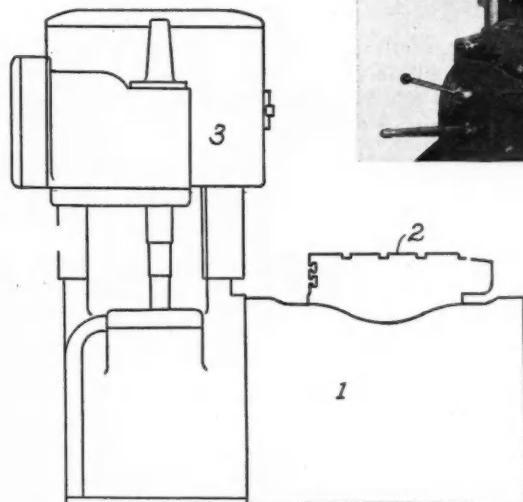

Fig. 8—Automatic polisher and buffer of unit construction by the Hammond Machinery Builders + +
Fig. 8 shows a striking new development—a universal automatic polishing and buffing machine recently made by the Hammond Machinery Builders. And it fits right into our picture. As shown in the illustration, the machine consists of a massive base providing support for a work table and any given number of polishing and buffing heads individually driven. The arrangement of driving head and the design of the table are all variable. According to the builders of this machine it answers the following requirements: (1) Presents the work to the polishing wheel face; (2) maintains correct position of work against the face of the wheel; (3) provides the yielding or giving effect of the human hand; (4) passes the work at the correct feeding speed; (5) facilitates redressing the wheel face at proper intervals.